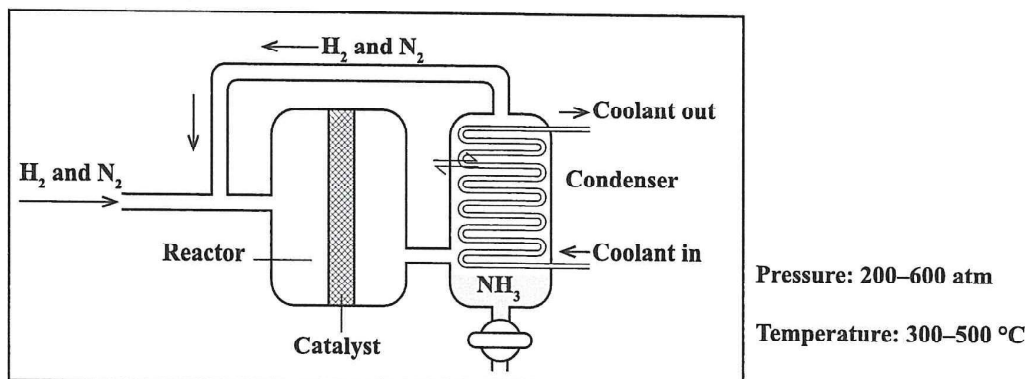

Figure 1. Haber–Bosch synthesis of ammonia
3. (a) Figure 1 shows The Haber–Bosch synthesis of ammonia from its elements.
- (v) With reference to Figure 1 on page 13, state TWO possible design limitations that could lead to reduced product yield.